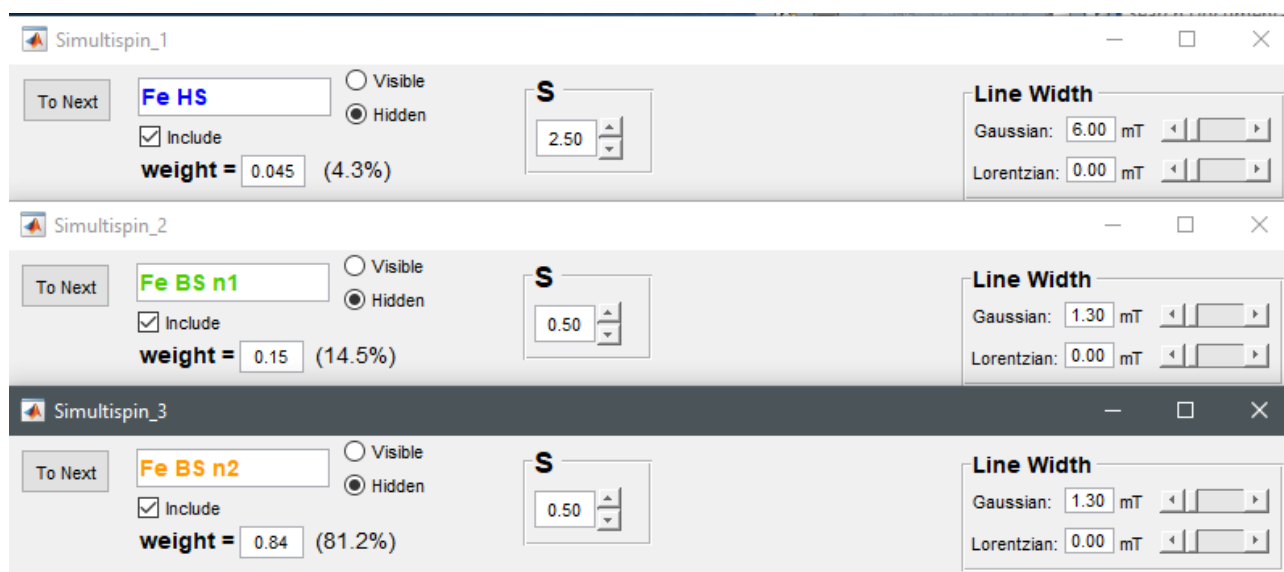

Figure 5: extract of 3 component windows with their relative weight options
- With several components, the user is able to specify the relative weight of each of them in each component window (see fig5).